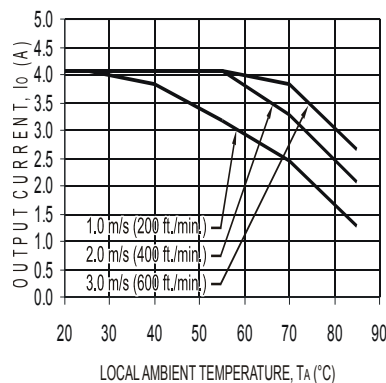

Figure 17. Derating Curve for JPW200S52R5-BH (Vo = 52.5V) with base plate; Vin = 52V.
Increasing airflow over the module enhances the heat transfer via convection. Figure 17 shows the maximum output current that can be delivered by the module without exceeding the maximum case temperature versus local ambient temperature (TA) for natural convection through 3 m/s (600 ft./min.).
Note that the natural convection condition was measured at 0.05 m/s to 0.1 m/s (10 ft./min. to 20 ft./min.); however, systems in which these power modules may be used typically generate natural convection airflow rates of 0.3 m/s (60 ft./min.) due to other heat dissipating components in the system. The use of Figure 17 is shown in the following example.
Determine airflow (v) (Use Figure 17.):